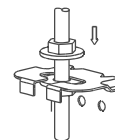

Fig. 5-5
- Locate the air conditioner firmly by wrenching the nuts after having adjusted the body's position well.(Refer to Fig.5-5)